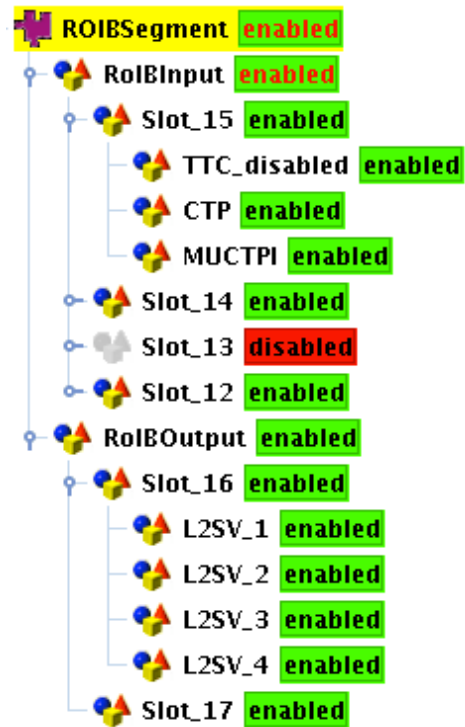

Figure 8: RoIB Inputs and Outputs
- ROIBSegment which defines the RoIB inputs and outputs physically in the VME crate (Figure 8).